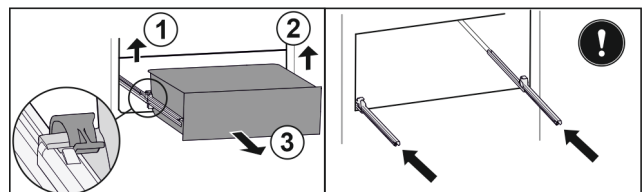

Fig. 210
- ▶ Lift left clamp and simultaneously pull drawer forwards on the left. Fig. 210 (1)
- ▶ Lift right clamp and simultaneously pull drawer forwards on the right. *Fig. 210 (2)*
- ▶ Remove drawer to the front. *Fig. 210 (3)*